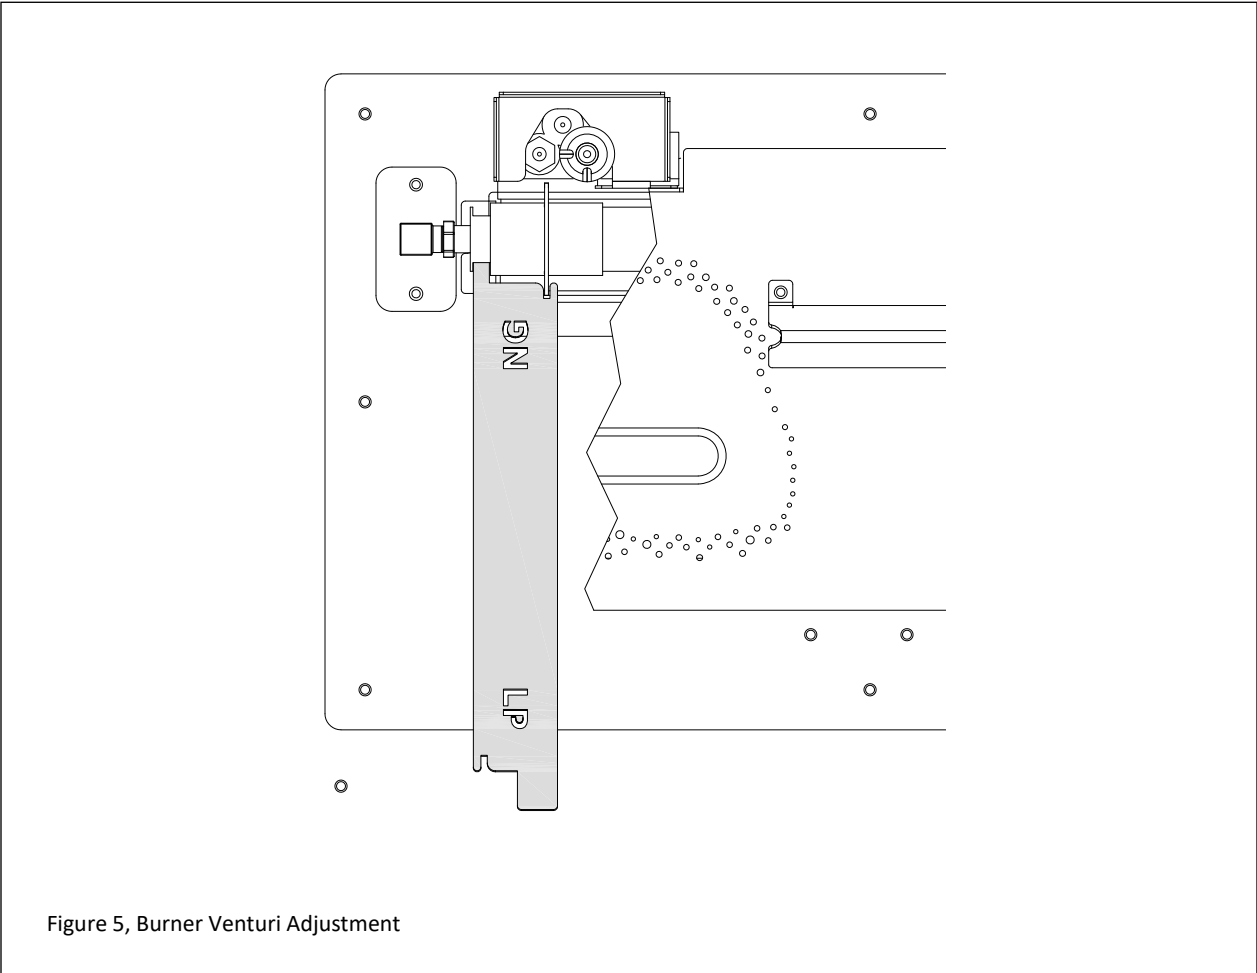

Figure 5, Burner Venturi Adjustment
3. Loosen the wing nut securing the lever and adjust the venturi as necessary. See FIGURE 5 and TABLE 2.